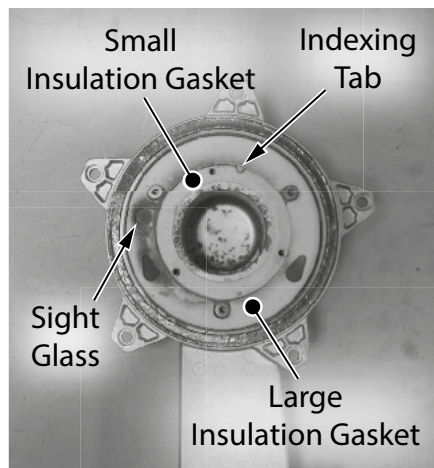

Figure 13 - Burner insulation gaskets
22 Locate the small and large insulation gaskets on the burner door as shown in Figure 13. Use a plastic scraper to gently scrape insulation clean from burner door. Confirm burner door surfaces are free of any debris or leftover insulation.
23 Locate the new, small insulation gasket provided in the kit. Install the small insulation gasket first. Flip gasket so the adhesive side is facing the burner door surface. Note the indexing tab on the burner door to properly orient the gasket (Figure 13). Confirm gasket sits evenly and flush with burner door.
24 Locate the new, large insulation gasket provided in the kit. Install the large insulation gasket second. Flip gasket so the adhesive side is facing the burner door surface. Note the location of the sight glass on burner door to properly orient the gasket (Figure 13). Confirm gasket sits evenly and flush with burner door.
27 Locate the new burner provided in the kit. Install burner to burner door. Use the indexing tab to properly orient burner as shown in Figure 13. Secure with the three (3) screws previously removed in **Step 20**.